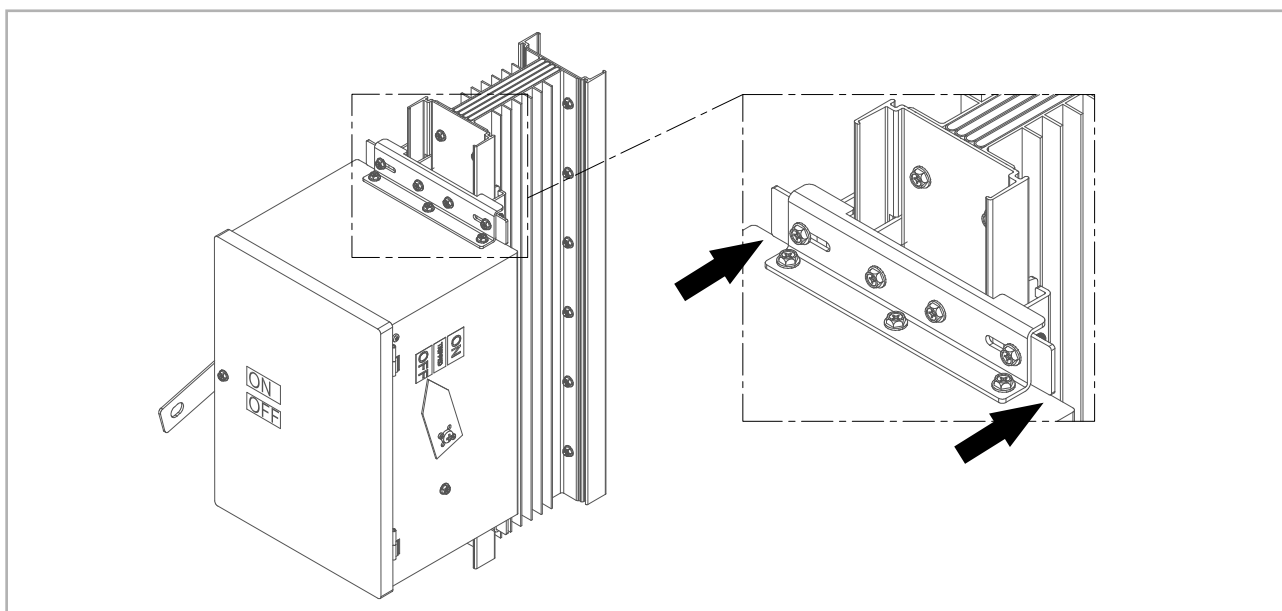

Figure 18.2
5. Push PIU onto busway. (Figure 18.2)